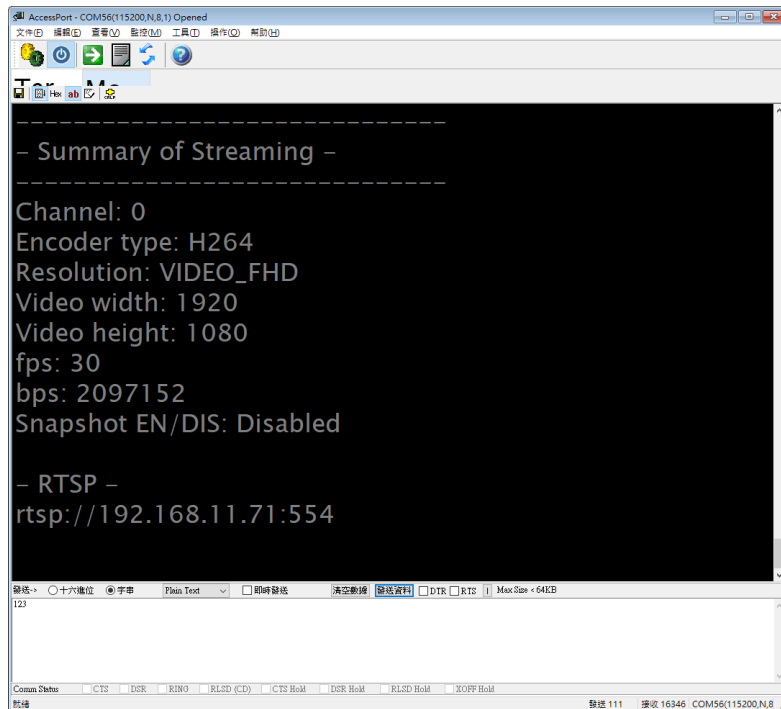

Figure 27 、Get the RTSP IP address
Compile and upload your code to HUB 8735 ultra (Refer (4) HUB 8735 ultra Firmware Upgrade). Reboot the hardware board, and you can see a RTSP IP address from debug message on Serial Monitor window (Figure 27).